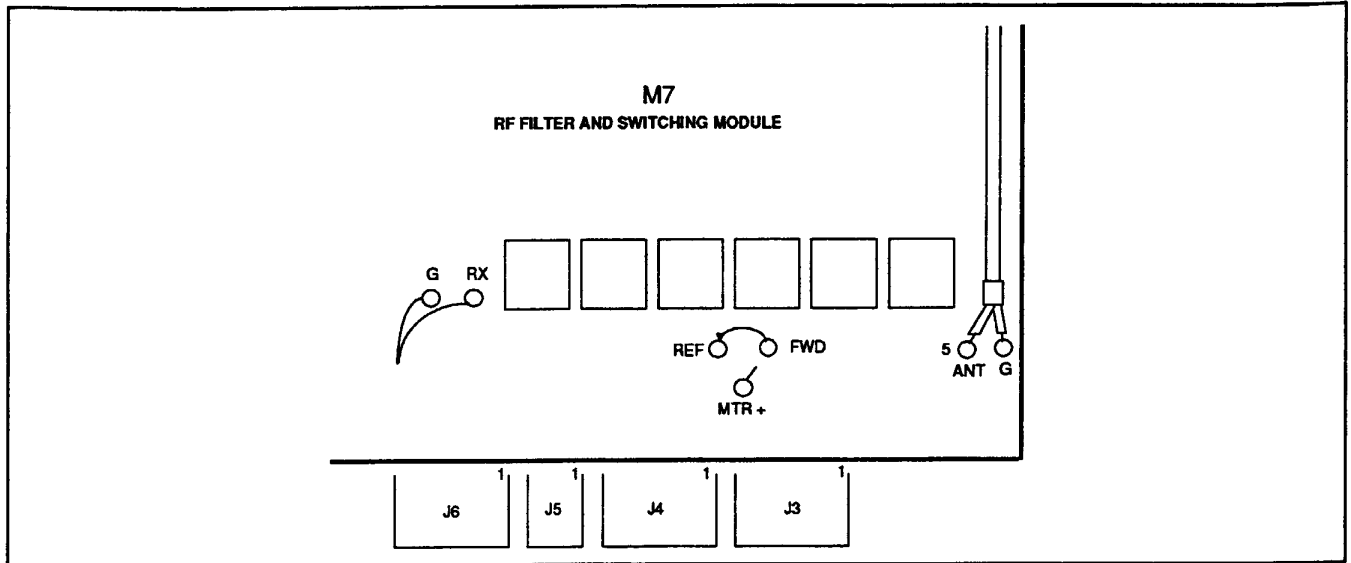

FIGURE 5-5.
2. The internal VSWR bridge can be connected as shown in Figure 5-5. It should be noted that the meter is not calibrated and is used as a null indicator. The antenna should be adjusted for minimum reading on the meter. A meter reading of less than 1 division on the scale is required for correct operation. It is recommended that an external VSWR meter be used for more exact measurements of the antenna matching.